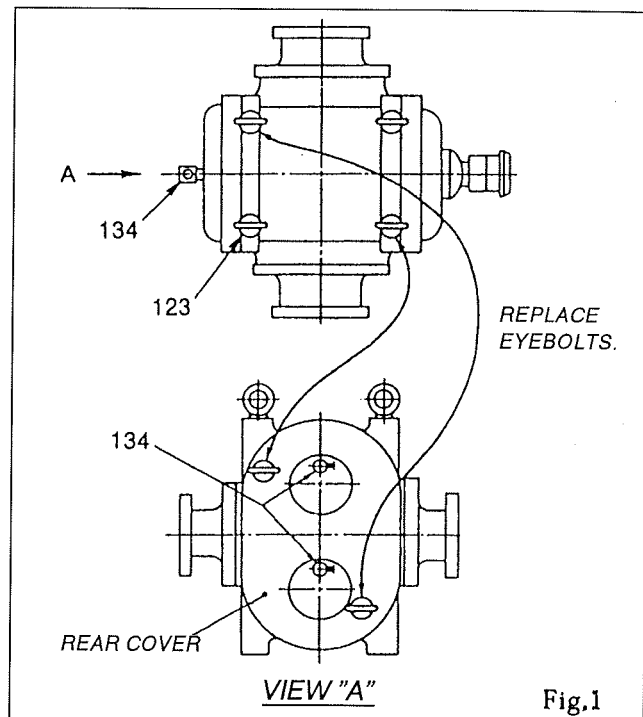

Fig.1
- (1) To safeguard the two air vent valves (134) on the rear cover against damage, two eyebolts (123) are provided on the rear cover before shipment from factory. At installation or removal, use these eyebolts by installing them on top as shown in Fig. 1.